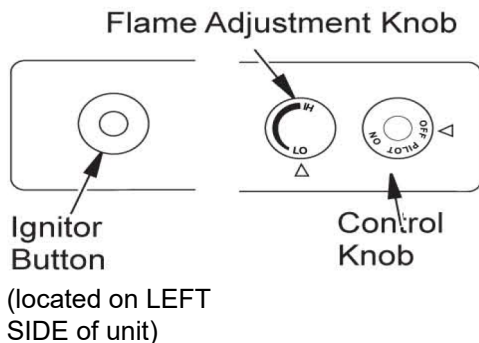

Figure 11 - Control Knob and Ignitor Button Location
4. Press in and turn control knob clockwise  to the **OFF** position (see *Figure 11*).
5. Wait five (5) minutes to clear out any gas. Then smell for gas, including near the floor. If you smell gas, **STOP!** Follow “B” in the safety information, column 1, page 15. If you don’t smell gas, go to the next step.
6. Press in and turn control knob counterclockwise  to the **PILOT** position. Press in control knob for five (5) seconds (see *Figure 11*).